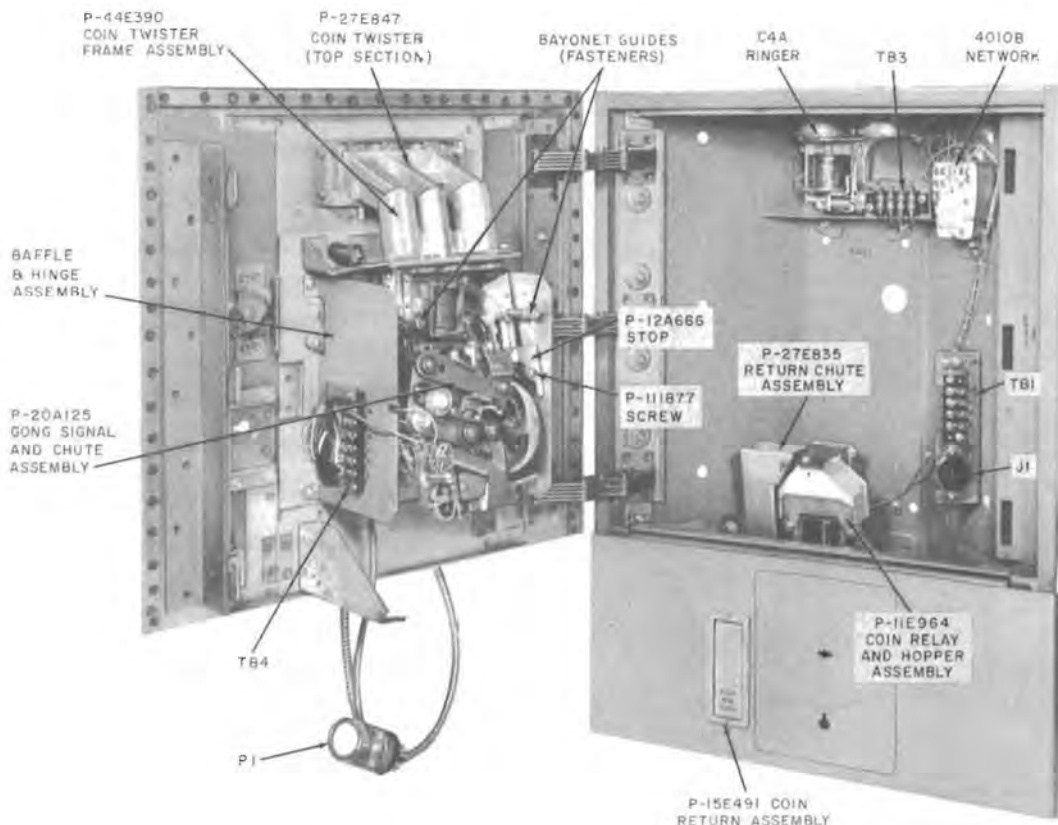

Fig. 5—235G or 1235G Coin Collectors—Interior View
2.01 Replaceable Components for 235G (Fig. 5)
2.02 Replaceable Components for 1235G (Fig. 5)